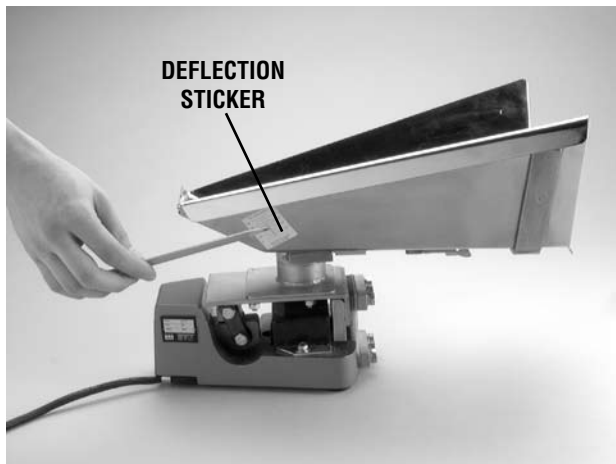

FIGURE 4
1. Place an Eriez deflection sticker on the side of the tray near the rear and parallel with the drive line (see Figure 4), or approximate this position if other attachments are being used on the drive unit.